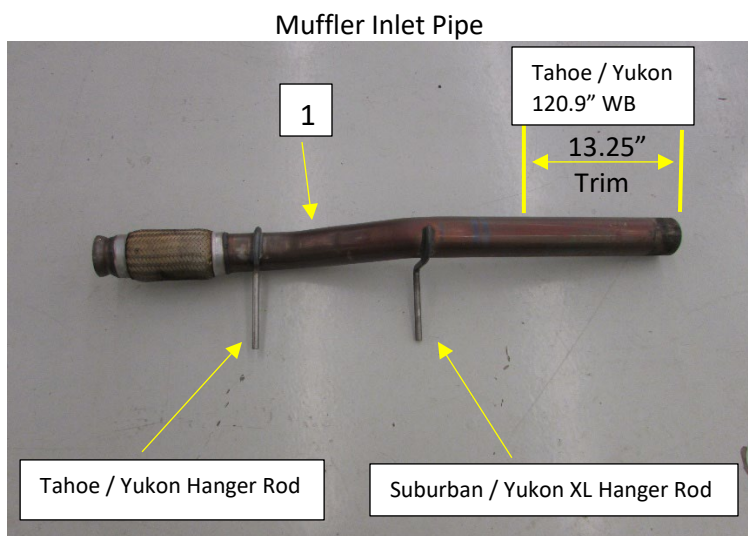

Figure.3
- Muffler Inlet Pipe – Trim 13.25" from end of 3.5" muffler inlet pipe **(1)**. **Fig.3**